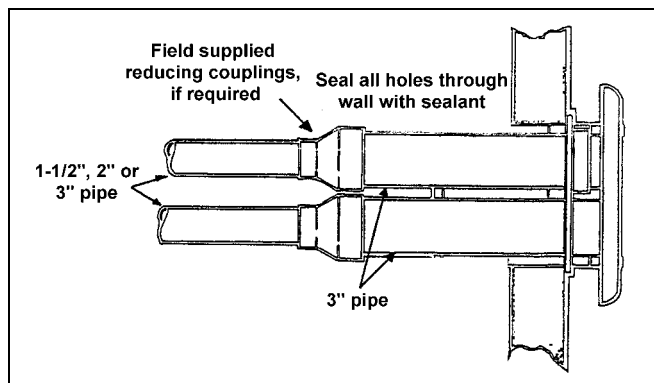

FIGURE 3
10. To reduce to 2" or 1-1/2" diameter pipe, field-supplied reducing couplings are required. See Figure 3.